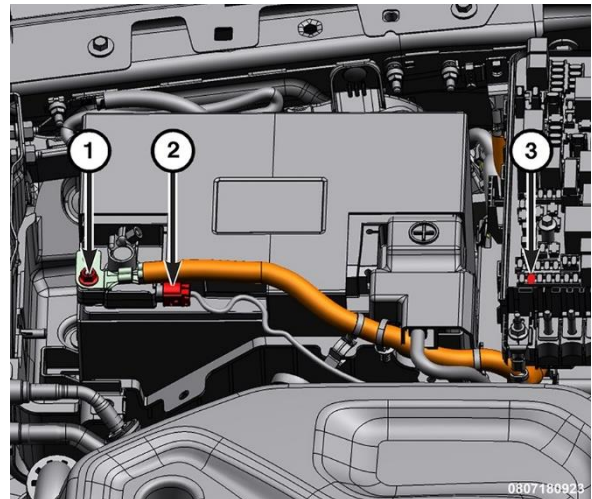

Figure 45 – Negative Battery Cable, Fuse F09 and IBS Connector
64. Remove the cover, connect the negative battery cable to the IBS and tighten the fastener (1) to 10N·m (7 ft. lbs.) (Figure 45).
65. Install the F09 (5 amp) IDCM fuse (3) in the Power Distribution Center (PDC) (Figure 45).
66. Connect the IBS harness connector (2) (Figure 45).